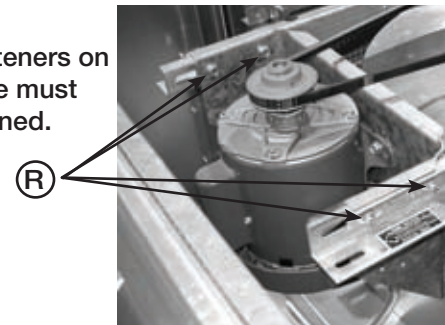

Figure 5
8. Belt tension can be adjusted by loosening four fasteners (marked "R" in Figure 5) on the drive frame. This allows the motor plate to slide on the drive frame angles for proper positioning.